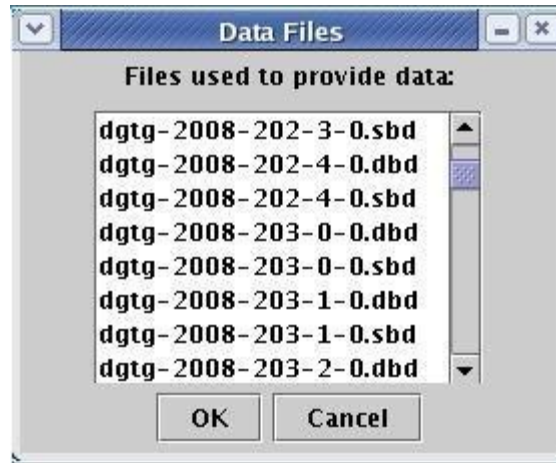

Figure 8-7. Dialog for viewing files used to provide data
1. Select Dates/Select data files. A scrollable list of files will then appear (similar to that shown in shown in Figure 8-7).
The Data Files dialog in Figure 8-7 can also be used to select which data is to be displayed. For example, highlighting files **dgtg-2008-202-4-0.dbd** through **dgtg-2008-203-1-0.sbd** from the multi-selection list and selecting 'OK' will update the Data Visualizer display to only show data from those files. This provides an alternative mechanism to drill-down on data obtained from specific files. Finally, the Data Files dialog will remain visible, and in-step with any displayed data, until 'Cancel' is selected.